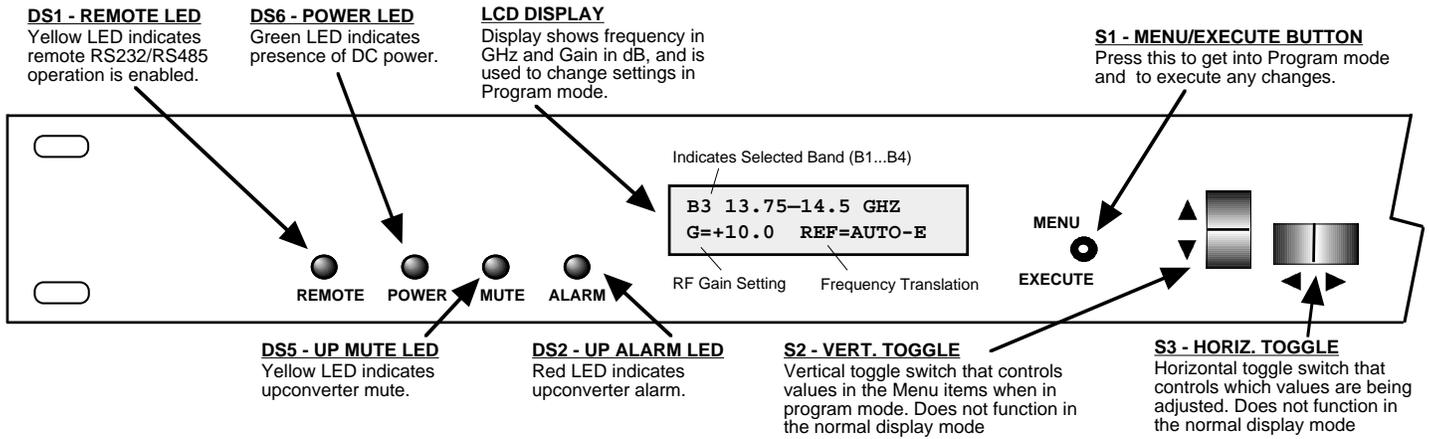

FIGURE 2.3 3115-41-184 Front Panel Controls and Indicators
Figure 2.3 shows the front panel controls and indicators.
4. Be sure DS6 (green, DC Power) is on and DS2 (red, Alarm) is off (Figure 2.3).
2.6.1 Functions - This section describes operation of the front panel controls. There are three operator switches, the LCD display and alarm indicator LEDs. All functions for the equipment are controlled by these components. The functions are (see Figure 2.3):
Alarm indications appear on the LEDs (See figure 2.3).